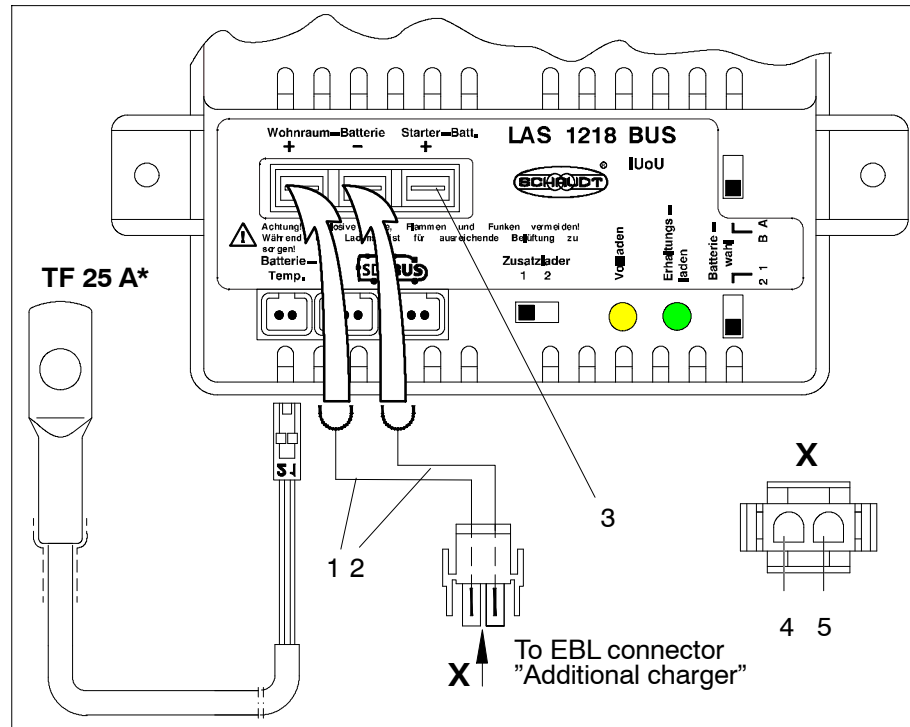

Fig. 3 Connection diagram for LAS 1218 BUS battery charger - to electroblock
- + terminal LAS 1218 BUS leisure area battery: Flat push-on contact, 6.3 x 0.8; (Fig.3; Pos. 1)
- - terminal LAS 1218 BUS: Flat push-on contact, 6.3 x 0.8; (Fig.3; Pos. 2)
- MNL connector (view X, Fig. 3; Pos. 4/5) or Minifit connector on electroblock, base "auxiliary charger"; see also operating instructions for electroblock
- 3-pin Lumberg connector must be plugged into LAS 1218 BUS, SDTBUS® (Fig. 3; Pos. 4)
- 3-pin Lumberg connector must be plugged into electroblock, SDTBUS® (Fig. 3; Pos. 5)